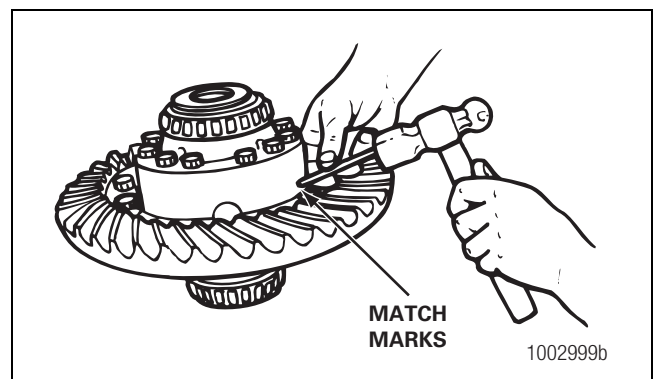

Figure 3.16
1. If the match marks on the case halves of the differential assembly are not visible, mark each case half with a center punch and hammer. Figure 3.16.